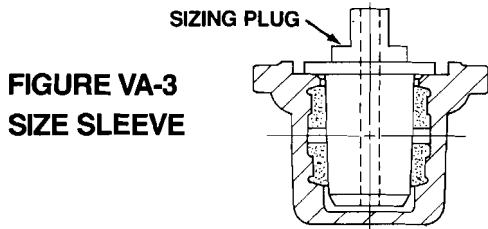

FIGURE VA-3
- Size sleeve. Check sleeve in body to make sure sleeve holes are still centered on the body ports. Apply a light coat of silicone lubricant to sizing Plug #1 and sizing Plug #2, part series #BY80017B & C. Push sizing Plug #1 into sleeve until the sizing plug flange bottoms against the counterbore of the valve body. Remove #1 sizing plug and now push #2 sizing plug in the same manner, but **HOLD SIZING PLUG IN PLACE** for 15 SECONDS (Figure VA-3).